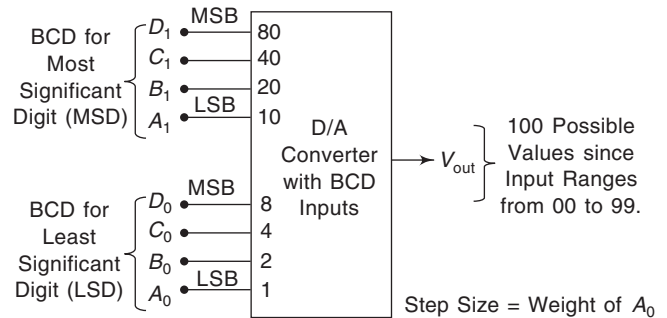

Fig. 17.7 DAC using BCD Input Code. This Converter Accepts a 2-digit Input and Generates 100 Possible Analog Output Values.
Many DACs use a BCD input code where 4-bit code groups are used for each decimal digit. Figure 17.7 illustrates an 8-bit (two-digit) converter of this type.
4, 8), but the *relative weights* of each code group are different by a factor of 10. Figure 17.7 shows the relative weights of the various bits. Note that the bits that make up the *BCD* code for the *most significant digit* (MSD) have a relative weight, that is *10 times* that of the corresponding bits of the *least significant digit* (LSD).
17.19 If the *weight* of A_0 is 0.1 V in Fig. 17.7 find the following values: